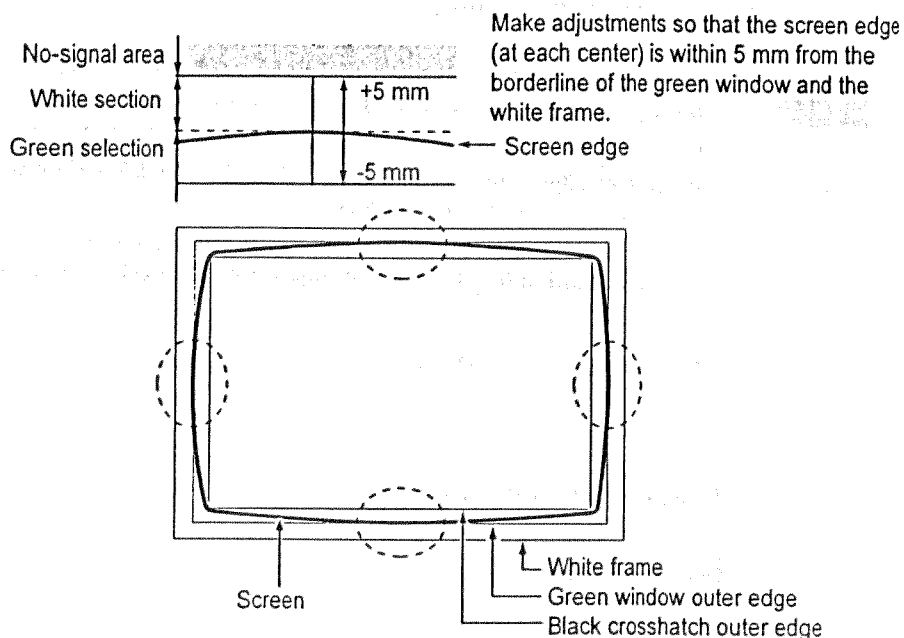

Fig. 3 Display size/display position adjustment diagram
1. Use the MONITOR TEST screen to display "VIEW ANGLE ADJUST (CRT)" (Fig. 3 Display size/display position adjustment diagram). (See P. 50 "7-4-5 Monitor Test (MONITOR TEST).")